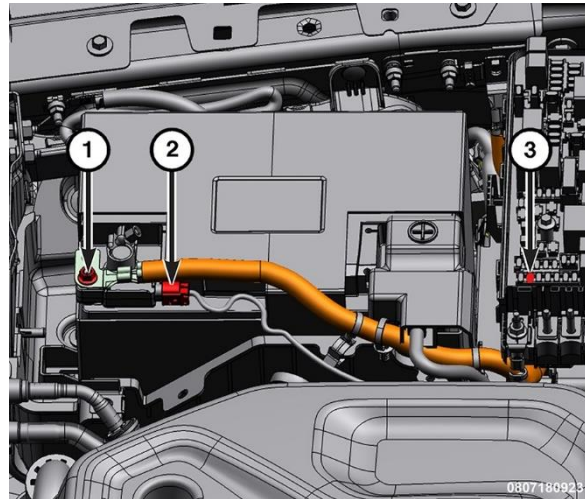

**Figure 14 – Negative Battery Cable, Fuse F09 and IBS Connector**
17. Remove the cover, connect the negative battery cable to the IBS and tighten the fastener (1) to 10N·m (7 ft. lbs.) (Figure 14).
18. Install the F09 (5 amp) IDCM fuse (3) in the Power Distribution Center (PDC) (Figure 14).
19. Connect the IBS harness connector (2) (Figure 14).